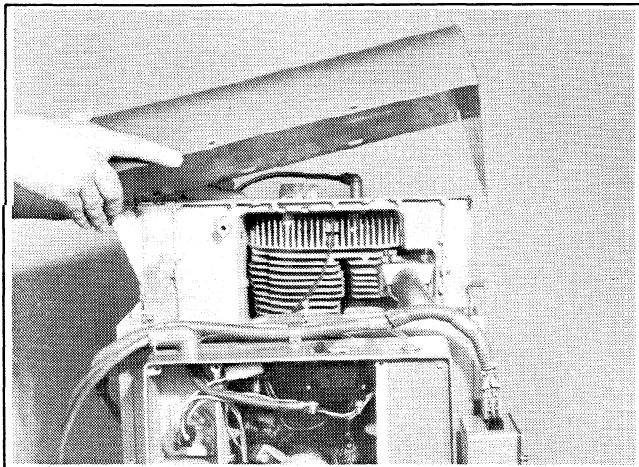

Figure 6-8. Top Housing Removal
6. Remove the top housing (Figure 6-8).